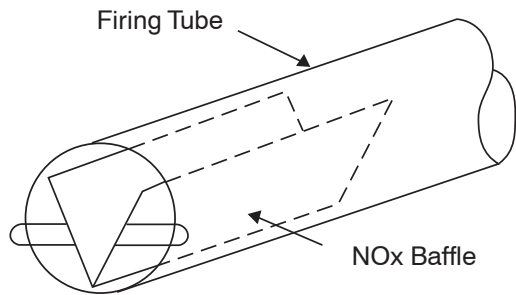

Fig. 1 - Low NOx Baffle Location
Before converting a unit to propane gas, remove the burner assembly and inspect the heat exchanger tubes. If there are V-shaped NOx baffles installed in the firing tubes, (see Fig. 1). **THEY MUST BE REMOVED PRIOR TO CONVERTING THIS UNIT TO PROPANE GAS.**
10. Inspect the inlet of the heat exchanger tubes for presence of V-shaped NOx baffles (see Fig. 1). If baffles are present, they must be removed prior to converting unit for propane gas. Using needle-nose pliers, remove NOx baffles, squeeze sides of the baffle, if necessary, to remove from the heat exchanger tubes.